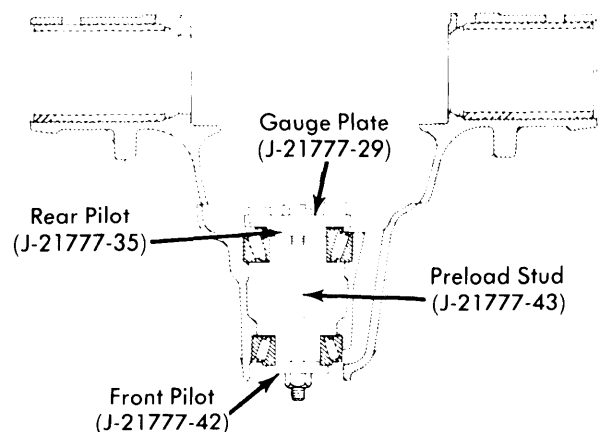

Fig. 8 Pinion Setting Gauge J-21777-350 Installation
3) Mount gauge plate (J-21777-29) on preload stud (J-21777-43) and install through rear pinion bearing. Place front pilot (J-21777-42) and nut onto preload stud. Tighten nut until snug, then rotate bearings to make sure they are seated (refer to Fig. 8).